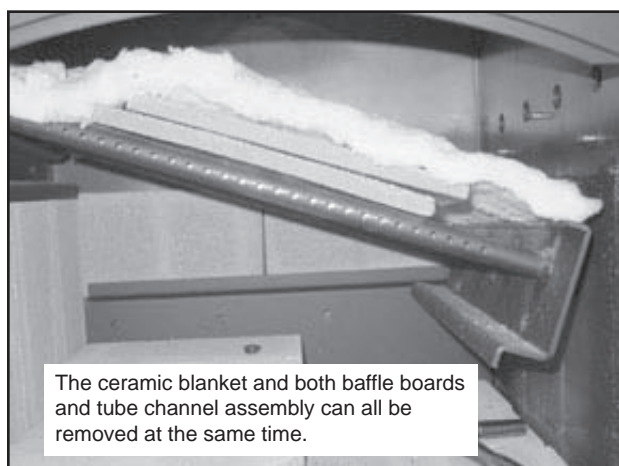

Figure 22.1
2. The baffle board has 2 pieces. With the ceramic blanket still in place, slide one baffle piece over the top of other one but still keep it all components inside the firebox. **Figure 22.1.**